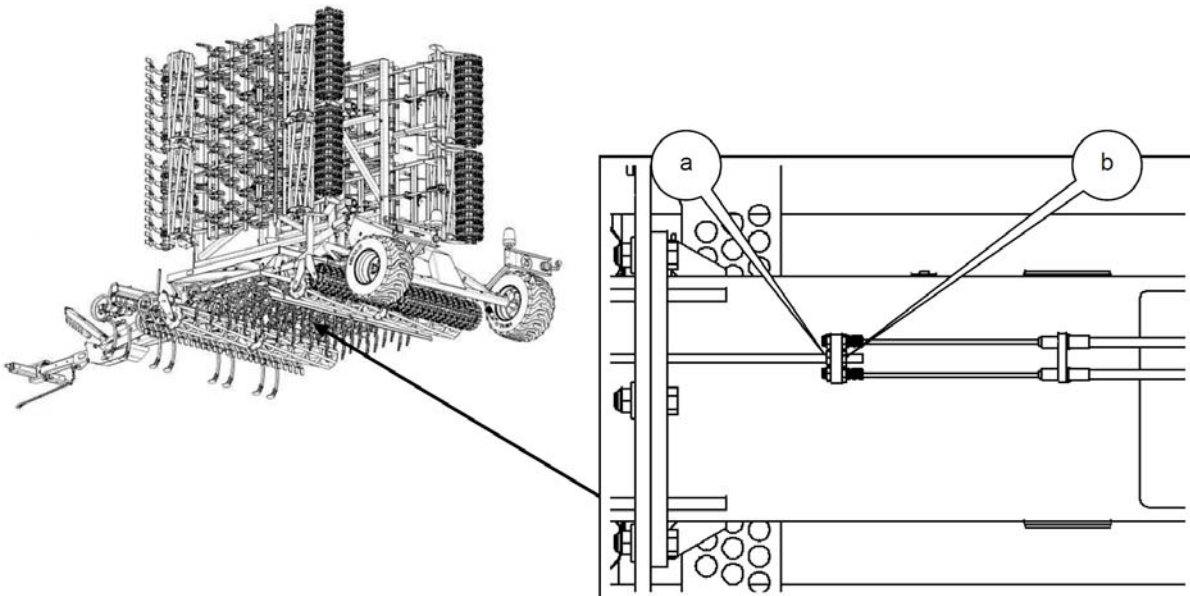

Fig. 23 Emergency-hand brake adjustment
- Adjustments are performed by raising/lowering the tension of Bowden cables (Fig. 23):